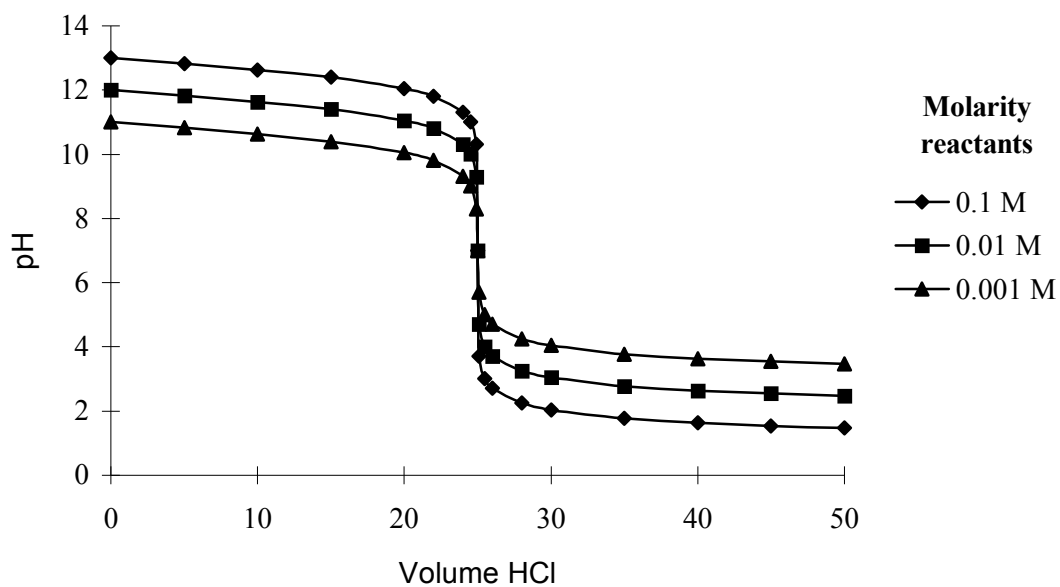

FIGURE 2.6 The effect of concentration on pH break for titrations of NaOH with HCl
- the concentration of the acid and base – the concentration of analyte essentially dictates the concentration of the titrant (see Figure 2.6)
What trend is apparent in Figure 2.6?